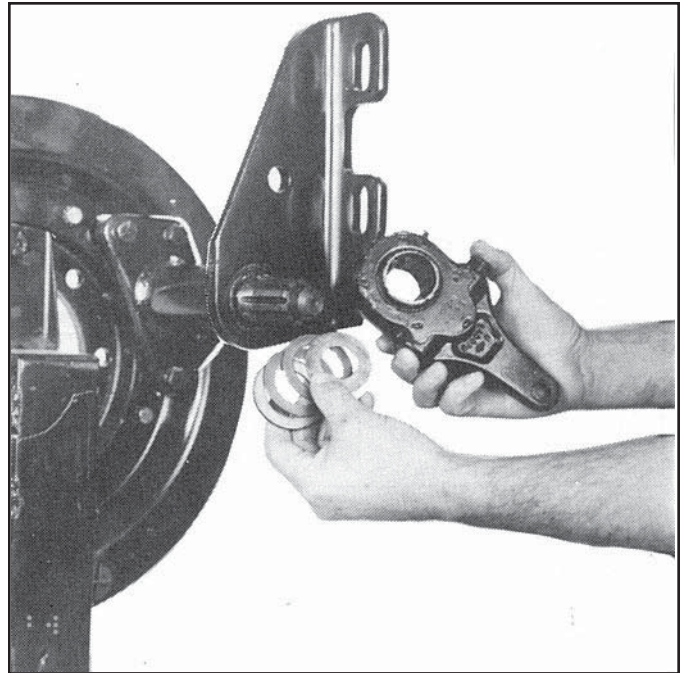

FIGURE 6 - REMOVING SLACK ADJUSTER
7. Remove snap ring and washer from splined end of cam shaft. Remove slack adjuster from cam shaft. (A puller may be required.) Remove spacers and the thick washer from cam shaft. (See Figure 6)